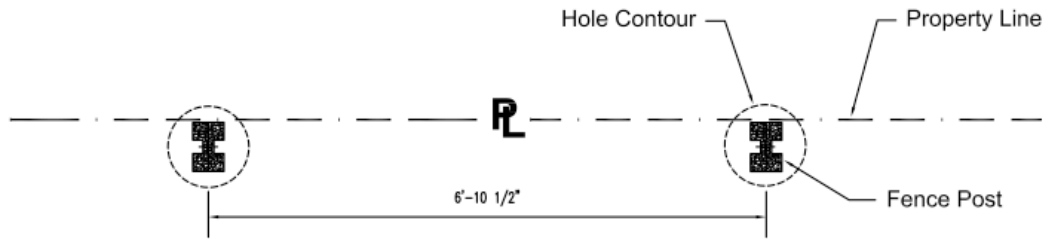

Figure 1. Required Post Location
2. Run a string around the perimeter of your fence line. This will identify potential problems with hedges, trees, and other objects. Please remember, that the violation of the property line is against the law. So make an agreement with the neighbor(s) or follow the instructions per Figure 1.